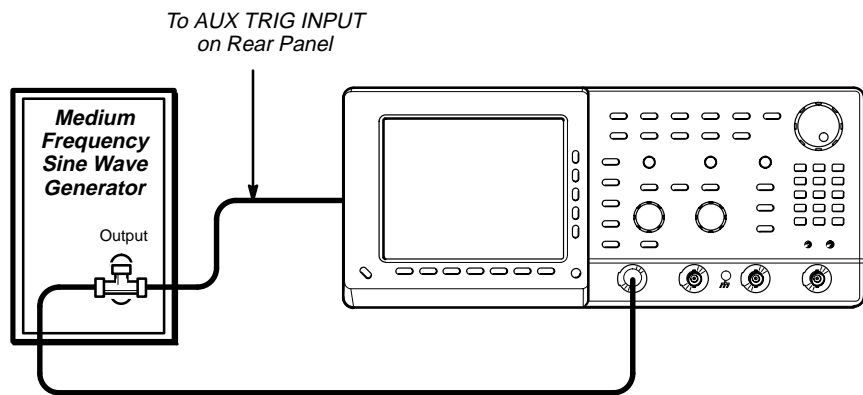

Figure 1-18: Initial Test Hookup
- Connect the other output of the T connector through a second 50  $\Omega$  precision coaxial cable to the **AUX TRIG INPUT** at the rear panel. See Figure 1-18.